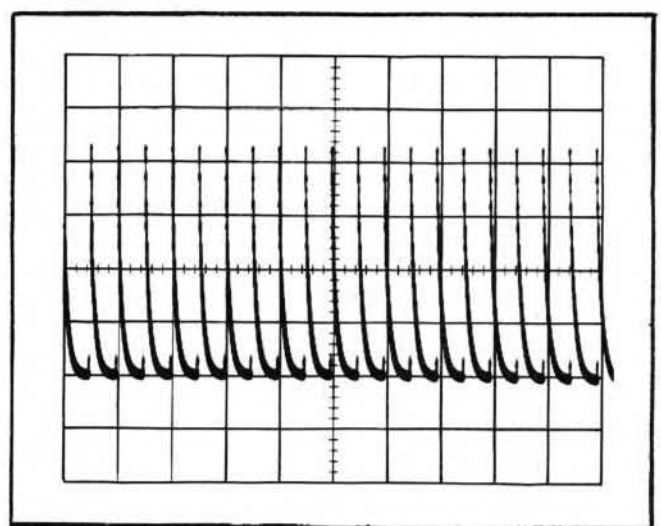

Fig. 5-7. CRT display showing correct .2 μ s timing.
- CHECK—CRT display for two markers each division over the center eight divisions. Check that sweep timing is within 0.16 division (2%) over center eight divisions. See Fig. 5-7.